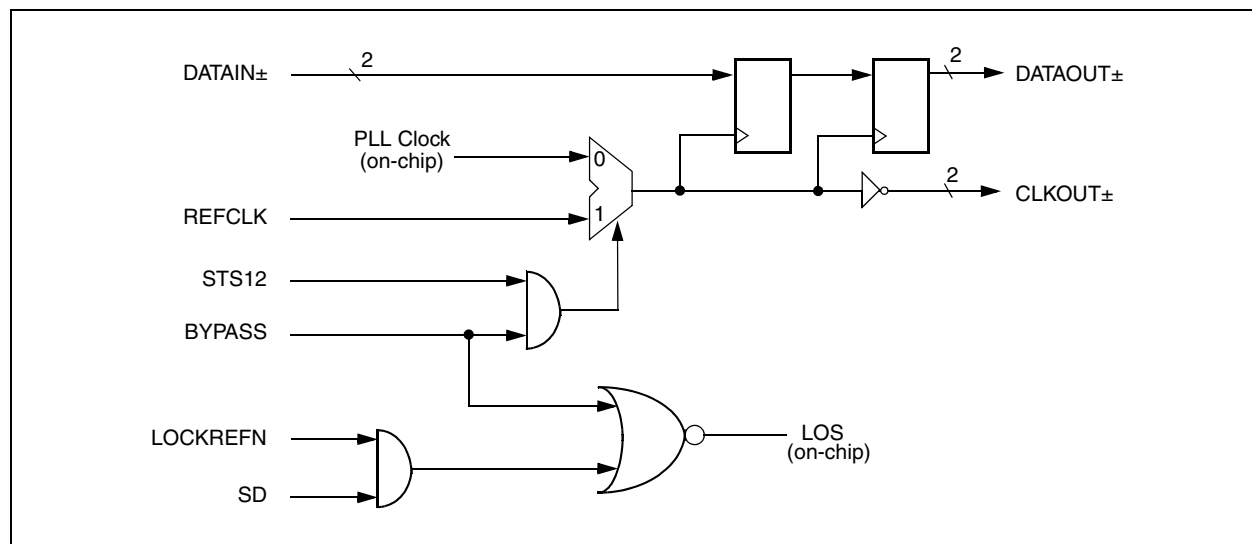

Figure 1. Control Diagram for Signal Detection and PLL Bypass Operation
The VSC8115 has a signal detect (SD) input and a lock-to-reference (LOCKREFN) input. The SD pin is a LVPECL input and the LOCKREFN pin is a LVTTTL input. These two control pins are used to indicate an LOS condition and are connected inside the part as shown in Figure 1 on page 3. If either one of these two inputs goes LOW and BYPASS is LOW, the VSC8115 will enter a Loss of Signal (LOS) state, and will hold the DATAOUT $\pm$ output at logic LOW state. During the LOS state, the VSC8115 will also hold the output clock CLKOUT $\pm$ to within ± 500 ppm of the REFCLK. See Table 1 on page 3.